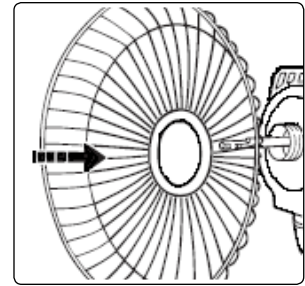

fig.1
- 4.1.2. Place the rear grill onto the motor housing aligning the 3 raised knobs on the top of the motor housing with the three holes on the grill. fig.1.